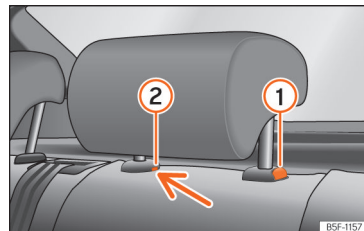

Fig. 75 Rear headrest: removal.
- Press button »» Fig. 75 ①, while simultaneously pressing on the safety hole ② with a flat screwdriver a maximum of 5 mm wide, and remove the headrest.